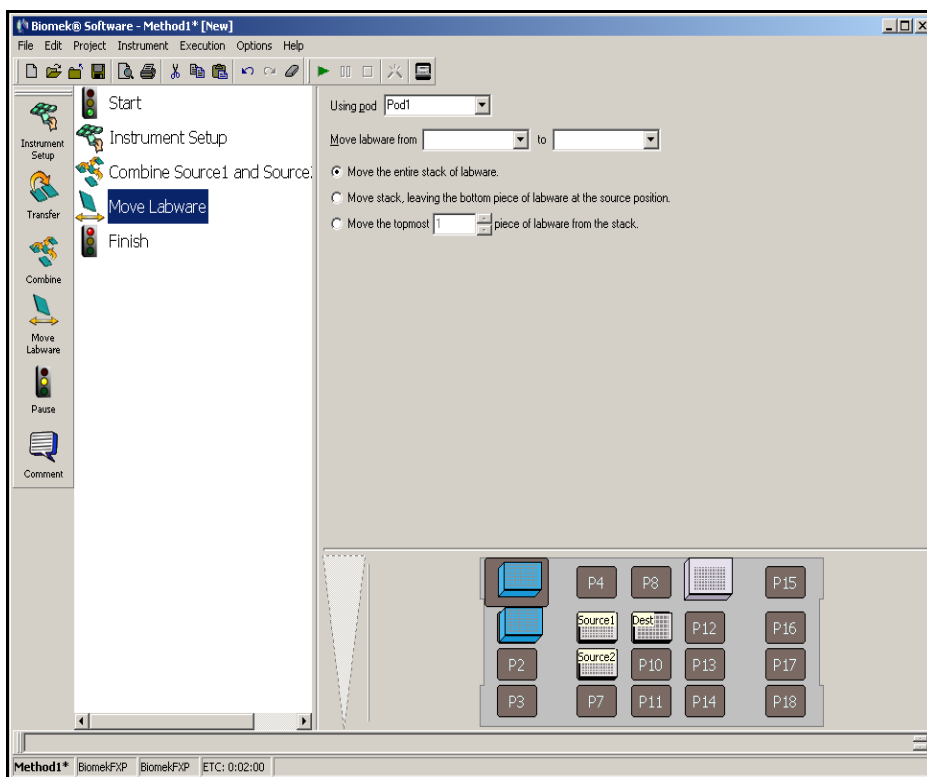

Figure 2-7. Move Labware step configuration
2. Insert the **Move Labware** step from the step palette after the Combine step. The Move Labware configuration appears (Figure 2-7).